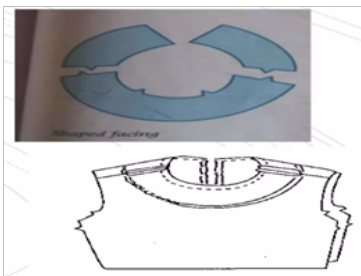

Fig: 1.21
1. Shaped facing: - Shaped facings are cut to match the outside shape of the piece to provide a neat finish, and are often cut from the same pattern pieces. Shaped facings are typically made of the same fabric as the garment, but may also be made of lighter-weight fabric or in a contrasting color as a design element. (Fig 1.21)